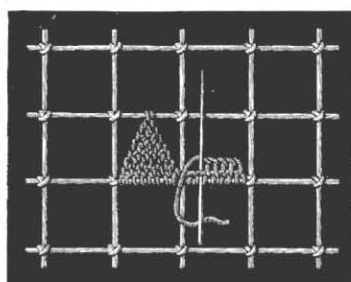

Fig. 30. Scallops in Venetian stitch.
**Scallops in Venetian stitch** (fig. 30). — The prettiest scallops which best suit the character of embroidered net are those done in Venetian stitch. You begin by making seven or